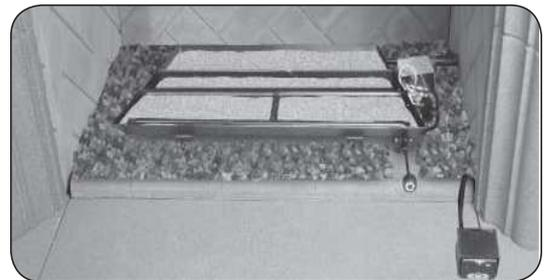

Fig. 12-3 Place sand granules (if applicable)
1. Fill the burner pan with the supplied bag of sand granules (see Fig. 12-3).